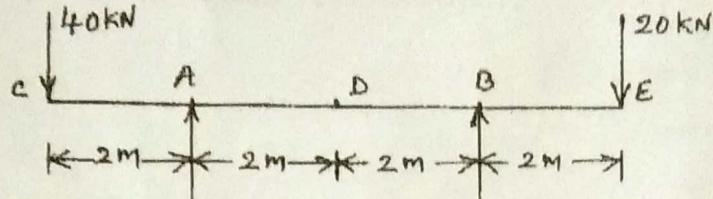

Fig. Q10(b).
- b. Calculate slope at A and deflection at D for the overhanging beam shown in Fig. Q10(b).